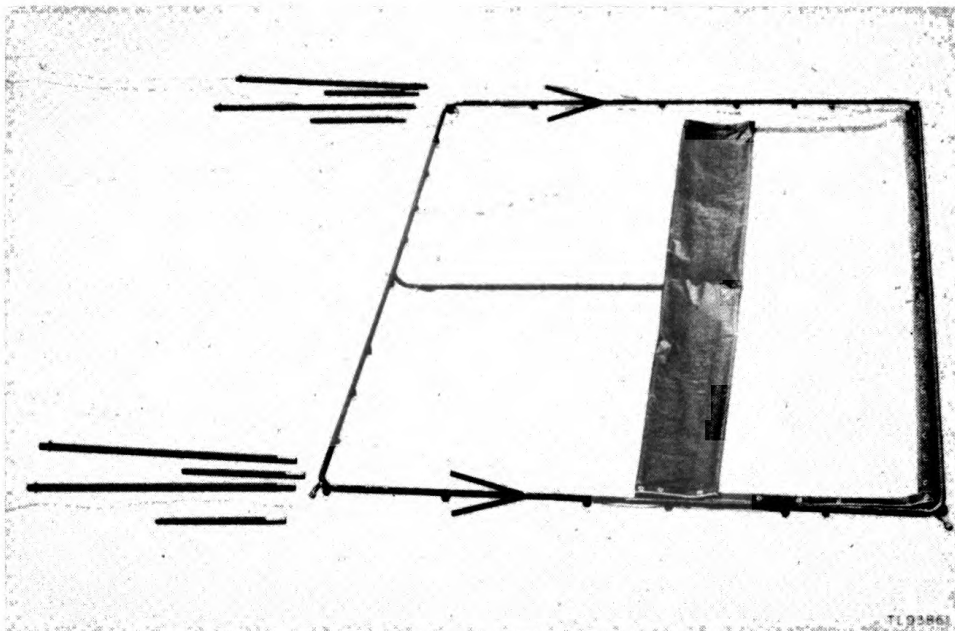

Figure 7. Screen PH-555/GF—screen cloth partially connected to frame.
f. Hook the coil spring hooks, on the top of the frame, into the grommets which are located in the top border of the screen cloth. (See fig. 7.)